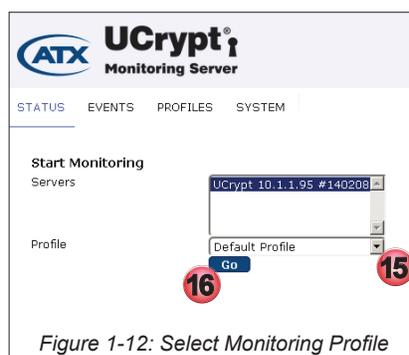

Figure 1-12: Select Monitoring Profile
- In the next dialog, select the **Default Profile** (or other defined profile) from the drop down menu, Figure 1-12. The profile defines the SNMP triggers that are monitored and reported. The default profile includes all possible parameters to be monitored. (See “4.2 Create or Edit a Profile” on page 4-1 to create a new or custom profile).